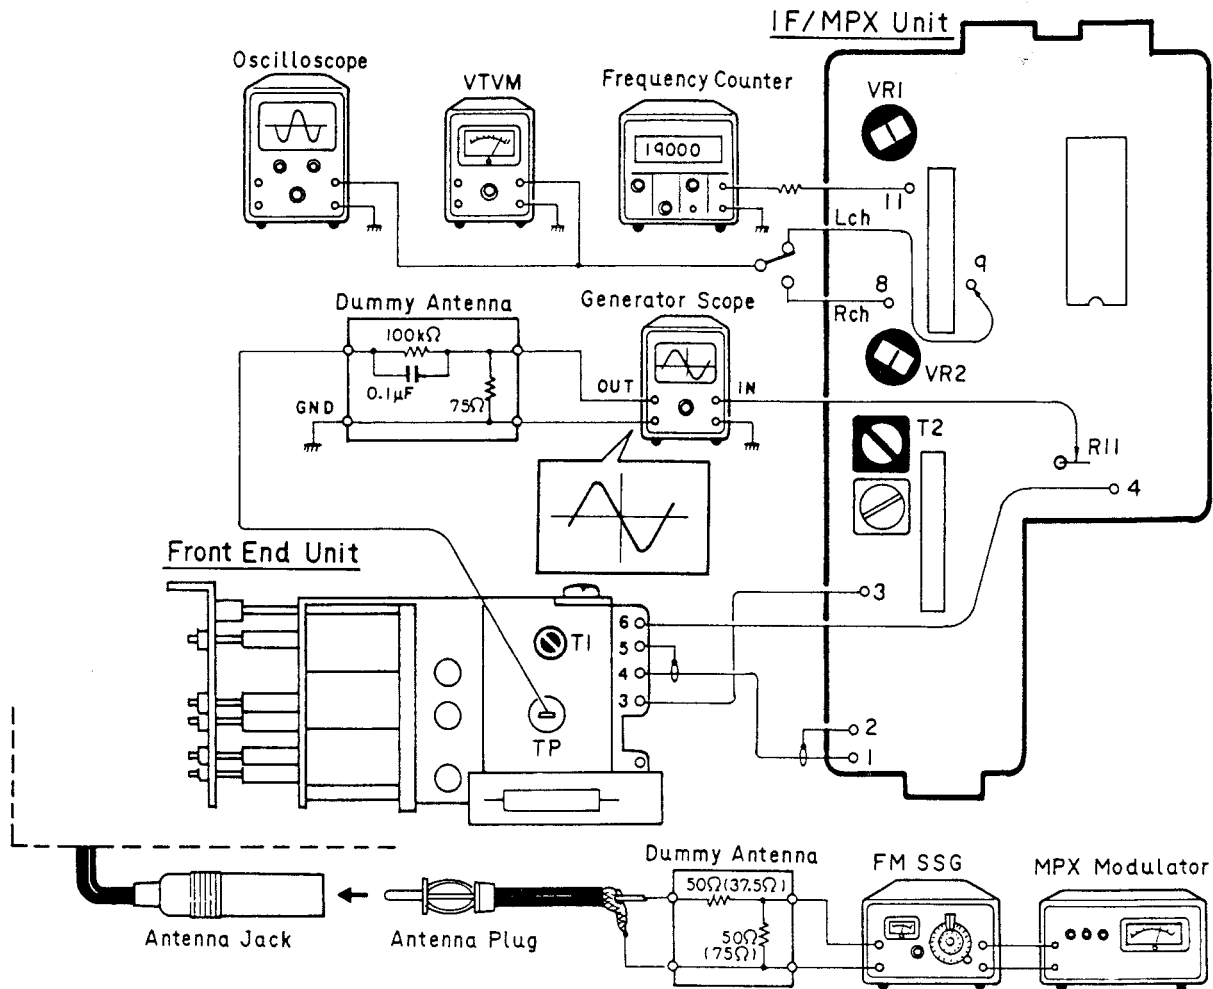

Fig. 8
- A waveform shown in Fig. 8 is obtained on the generator scope when the hook-up is made as illustrated above and the power source is applied to.
• Connection Diagram (Shown in Fig. 8.)